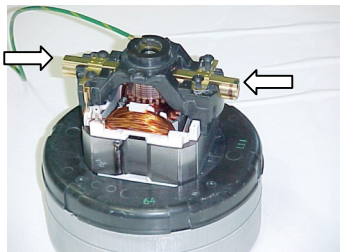

Figure 1
- 1) Using a phillips screwdriver, unscrew the 2 screws holding down each of 2 gold colored brush casings (see Figure 1)